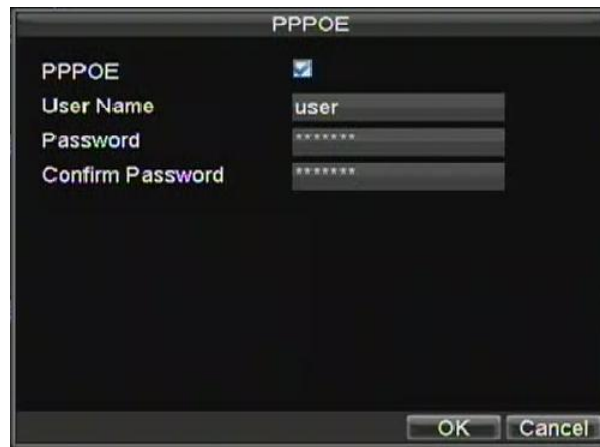

Figure 5. PPPoE Settings
5. Click the Set button next to **PPPoE** to enter PPPoE settings menu, shown in Figure 5.